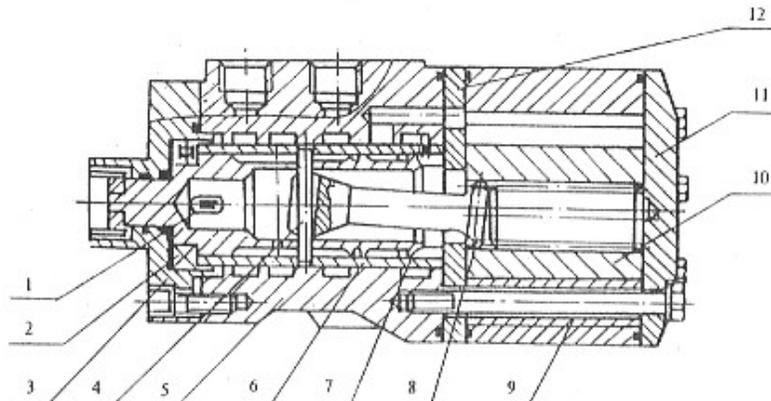

Fig 5.8 Structure of the full hydraulic steering gear
- a. The structure of the full hydraulic steering gear is shown in Fig 5.8. The Rotary servo valve, consisting of the Valve element, Valve bush (6) and Valve body (5), controls the flow direction of hydraulic oil. The Stator (7) and Rotor (10) makes up the pair of cycloidal toothing functioning as the flow control valve, which makes the hydraulic oil flow entering into the steering cylinder be in the direct ratio of the turning angle of steering wheel. The Linkage shaft (8) transmits torque.